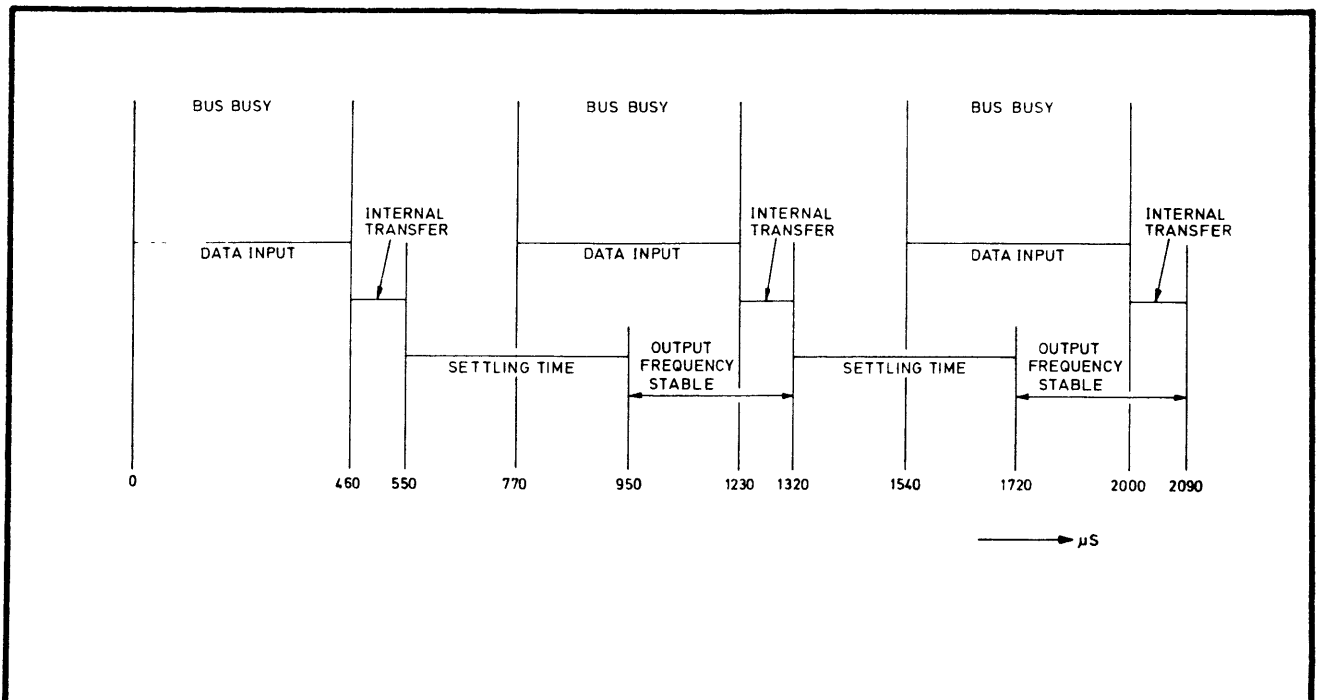

Fig. 5.2 Fast-Learn Mode Timing
5.11.3.2 Since the processing time is 770  $\mu$ s, the receipt of a second string may commence before settling is complete. Operation at the maximum rate is illustrated in Fig. 5.2.